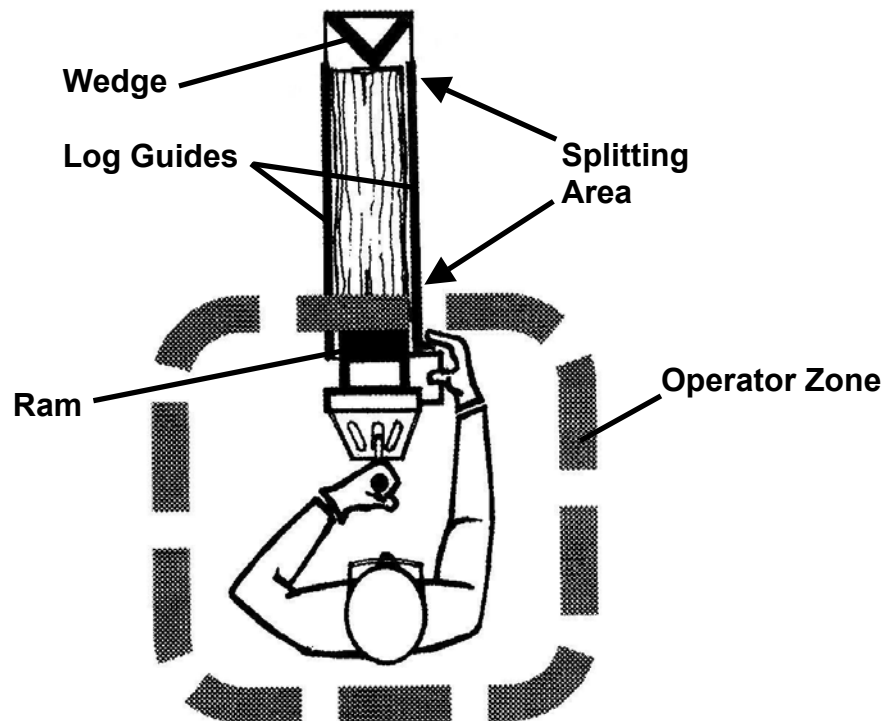

Figure 7
- Do not put any part of your body within the splitting area. Use a stick if you need to remove debris from the splitting area (*Figure 7*).